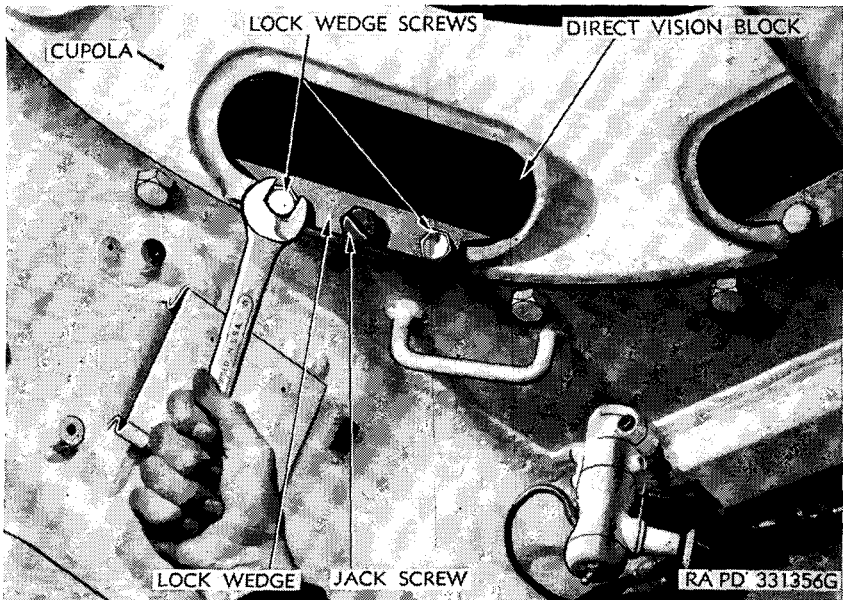

Figure 163. Removing cupola vision block.
- (1) Remove the two lock wedge screws and the jack screw locking block in position (fig. 163). Remove lock wedge and allow block to drop down.
- (2) To install, slide block into position and install jack screw and two lock wedge screws.